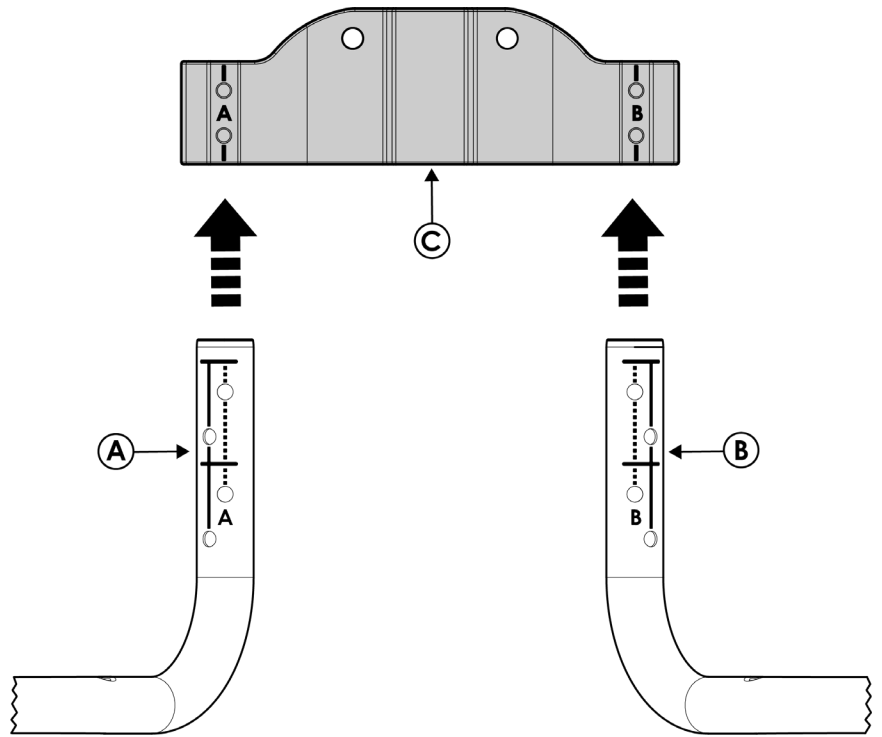

FIGURE 6.1
6.1 Lay main support on flat surface so markings can be seen as in *FIGURE 6.1*. Insert **A** into **C** as shown